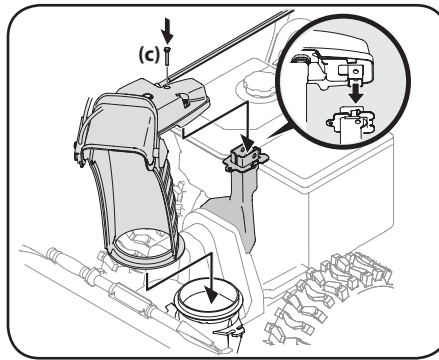

Figure 2-17
3. Place chute onto chute base and ensure chute control rod is positioned under handle panel. Install hex screw (c) removed in Step 1, but do not secure with wing nut at this time. See Figure 2-17.